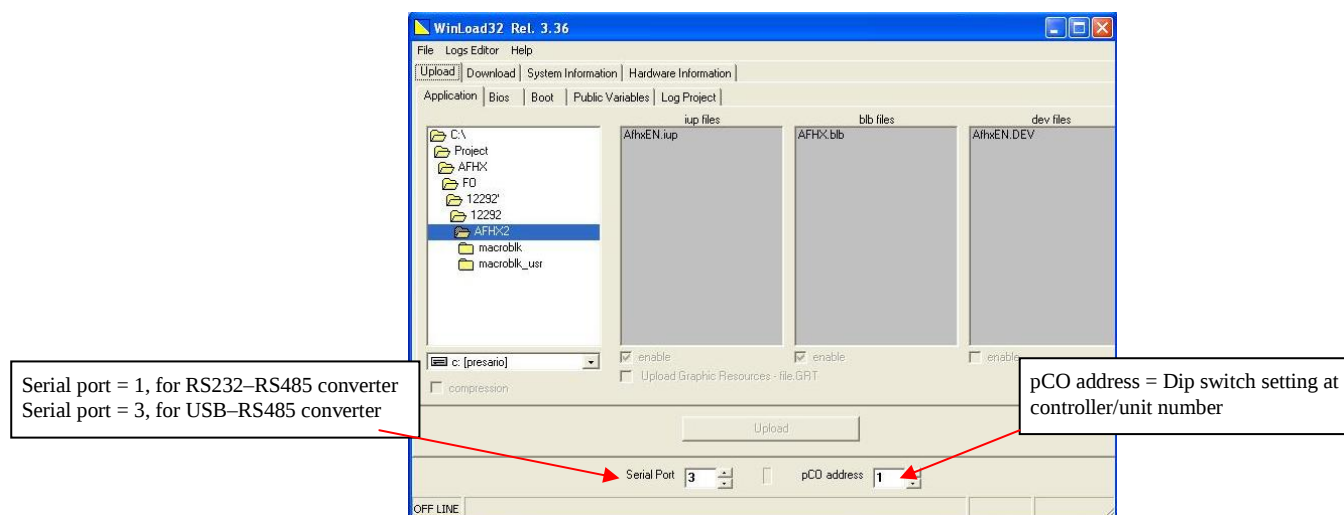

Figure 6.1.1
- ii. pCO address shall be set by refer to dip switch setting on the controller/unit number. Serial port in WinLoad is determined by type of converter used in this application. **Serial port** shall be set to 1 if RS232 – RS485 converter is used. Else if USB – RS485 is used, **Serial port** shall be set to the same port number where the converter is plugged. (Figure 6.1.1)